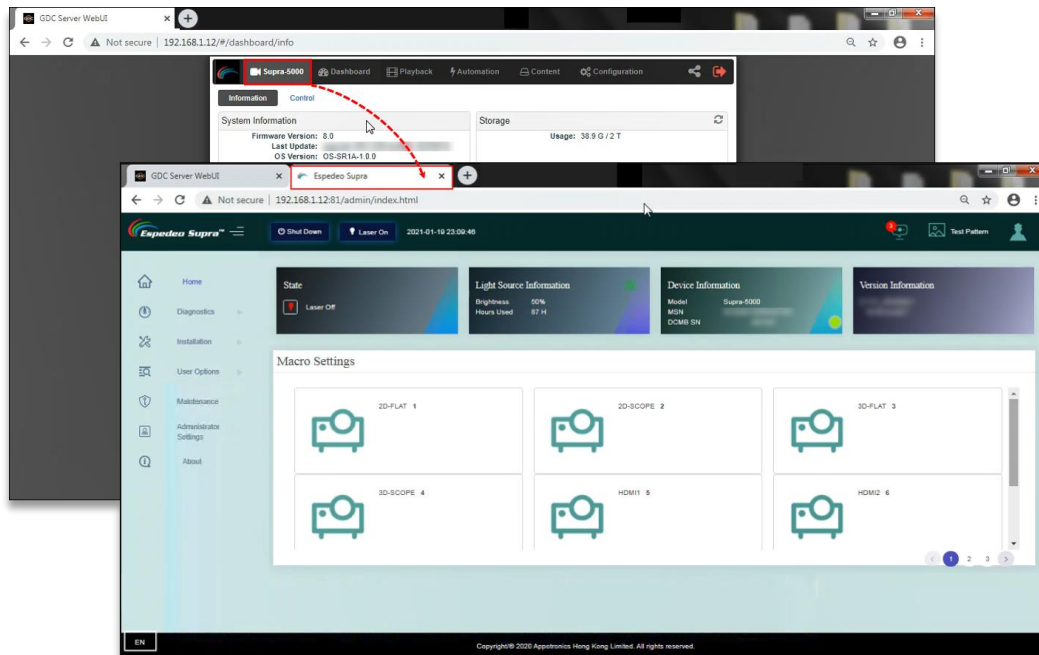

Figure 16:
- b. When the **Single tab mode** option is disabled; you can click on the '**Supra-5000**' tab to open and access the Supra Command Center web interface in a new browser tab (as shown in **Figure 16**).